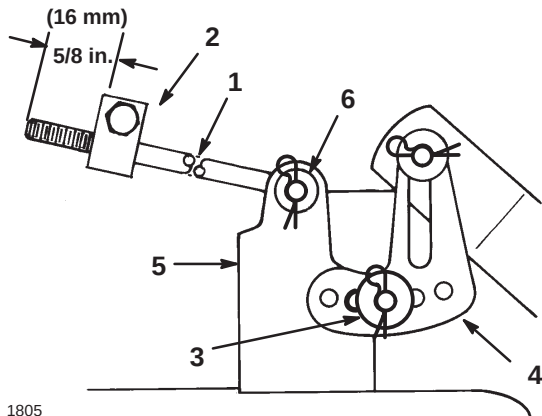

Figure 44
13. Ensure that both rods extend 5/8 in. (16 mm) beyond the adjustment block (Fig. 44).
14. Slide the end of the long rod through the hole in the mower mount (Fig. 44).
16. Mount the slotted mower leveling bracket onto the pin on the mower mount (Fig. 44).